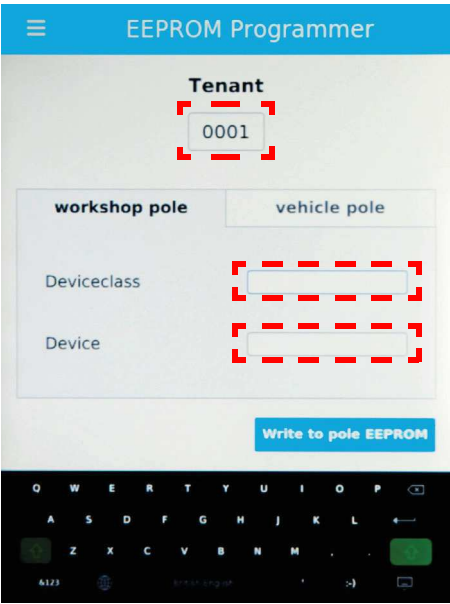

Figure 4-4 BAT 4
Step 5 Enter Tenant ID, Device class and Device ID (see **Figure 4-4**).